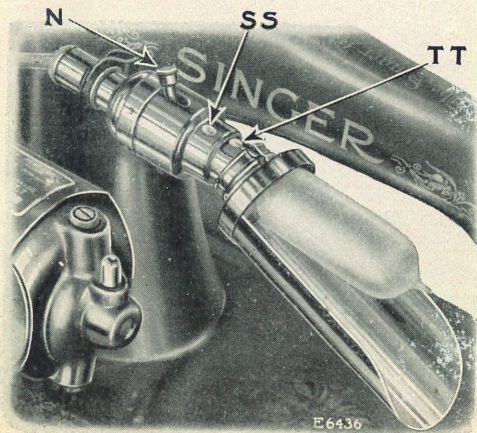

FIG. 4
Reach over the top of the machine and move the switch lever (N, Fig. 4) to the right or left as desired.
To remove the bulb, hold the Singerlight socket tightly with one hand and with the other hand turn the shade halfway around until the pin (SS, Fig. 4) for the shade is in the slot of the shade, then gently slip the shade off and allow it to hang free as shown in Fig. 4.
Do not attempt to unscrew the bulb. It is of the bayonet and socket type and does not unscrew. Press the bulb into the socket and at the same time turn it until the bulb pin (TT, Fig. 4) is out of the notch in the socket, then withdraw the bulb and shade.
To insert a new bulb, pass the bulb through the collar of the shade with the slot of the shade upward. Hold the socket tightly with one hand and at the same time with the other hand press the bulb into the socket with the bulb pin (TT, Fig. 4) in the slot and turn it until this pin is in the notch. Then slip the shade over the socket, the pin (SS, Fig. 4) for the shade entering the slot of the shade. See that the pin (SS) is in the groove of the shade and turn the shade halfway around, or until it is at the top.